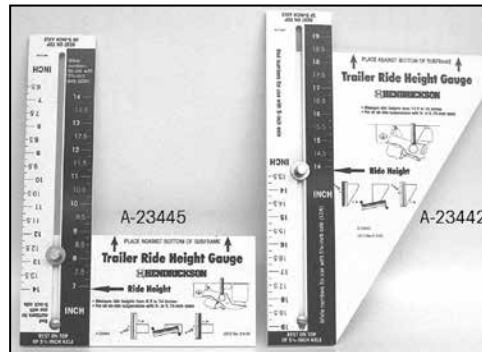

Figure 2: Hendrickson ride height gauges
1. Using a **Hendrickson Ride Height Gauge** (Figure 2).